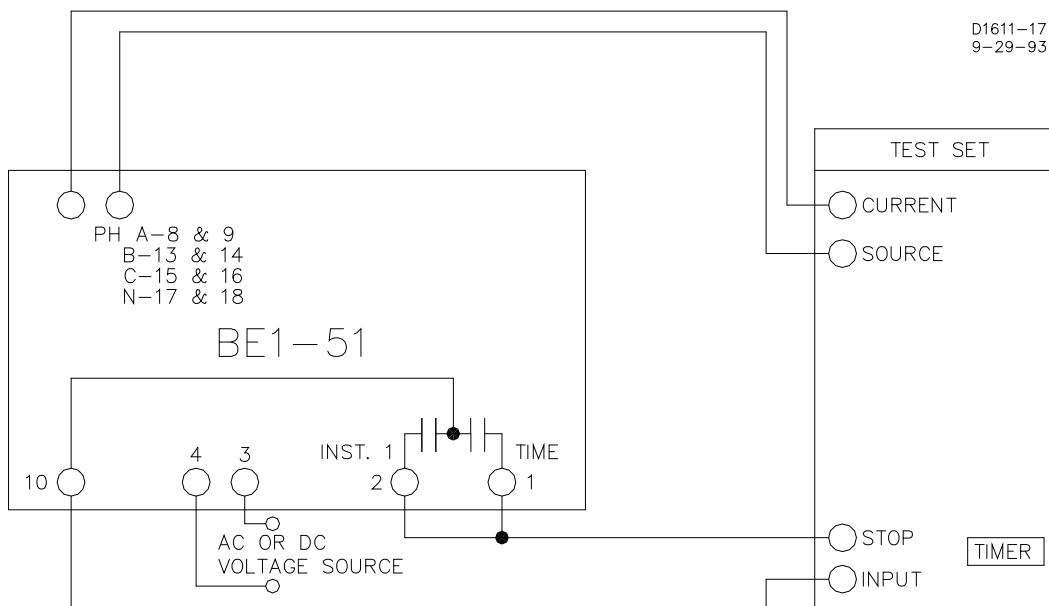

Figure 5-3. Test Setup for Sensing Input Type H or V (Three-Phase with Neutral Sensing)
- (c) Sensing Input Type H or V (Three-Phase with Neutral Sensing). Refer to Figure 5-3.
- (d) Sensing Input Type H or V (Three-Phase with Neutral Sensing). Remove the power and reconnect the input sensing to each of the remaining phases as shown in Figure 5-3, each time repeating Steps 1 through 10. For neutral testing, continue with Step 12.